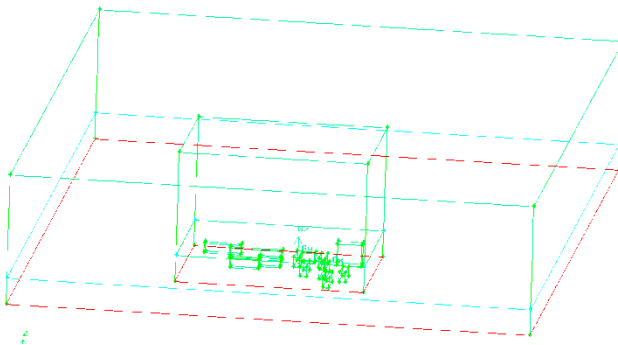

Fig. 19 The building model after decomposition.
- A denser mesh is needed in the region close to the ground, therefore decomposition is necessary to create the region, see Fig. 19. The height of the region could be slightly (for example, 5 m) higher than the maximal building height,  $H_{\max}$ . The height of the region is the same as the height of the 'domain small'.